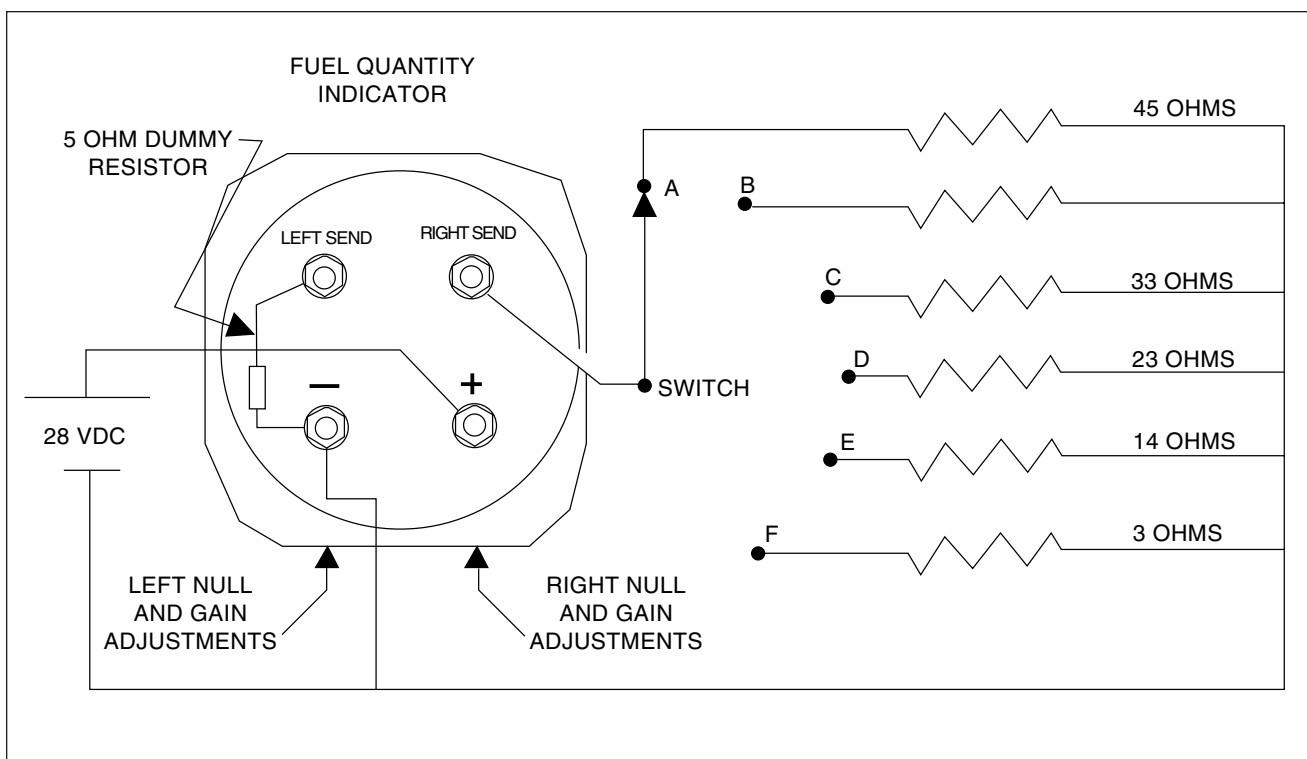

Figure 9-4. Resistance Decade Test Box Set Up
A. Connect a 5 Ω resistor between the ground terminal (GND) and left or right sender terminal, appropriate to side not being tested. (Refer to Figure 9-4)
B. Connect resistance decade to the left or right sender terminal, appropriate to side being tested. (Refer to Figure 9-4)
C. Apply 28 Vdc, through the resistance decade, to the ground (GND) and positive (+) terminals. (Refer to Figure 9-4)
D. Low end adjustment: (Refer to Figure 9-4)
(1) Select position *F* on resistor decade switch.
(2) Verify the appropriate instrument needle points to zero (0).
(3) If needle does *not* point to 0, adjust *NULL* potentiometer, located on bottom of instrument below side being tested, to center needle on 0.
E. High end adjustment: (Refer to Figure 9-4)
(1) See Figure 9-4
(2) See Figure 9-4